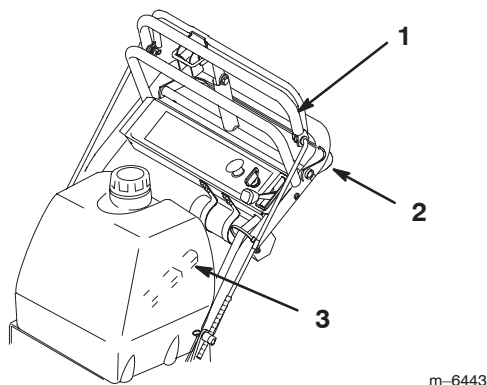

Figure 16
3. Slowly press on the upper control bar to move forward (Fig. 16).
To go straight, apply equal pressure to both ends of the upper control bar (Fig. 16).
To turn, release pressure on the upper control bar side away from the direction you want to turn (Fig. 16).
3. Slowly squeeze the lower control bar and handle together to move rearward (Fig. 16).
7. At the same time engage lower control bar and lift up on handle to drive over the curb (Fig. 16 and 17).
4. At the same time engage lower control bar and lift up on handle (Fig. 16 and 17).